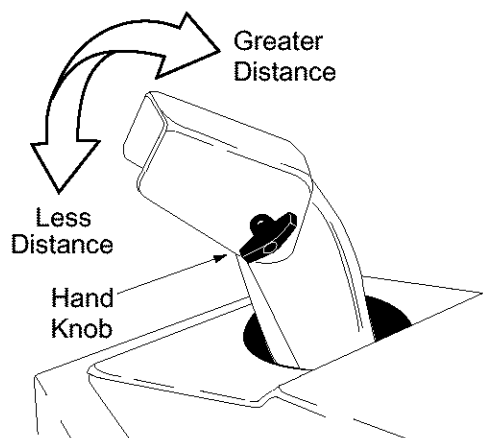

Figure 12
**Discharge Chute** - The angle of the discharge chute controls the distance the snow is thrown. The distance snow is thrown can be adjusted by tilting the discharge chute up for greater distance, or tilting down for less distance. Loosen the hand knob on the side of the discharge chute to adjust. Tilt the chute to desired position, and tighten hand knob. See Figure 12.